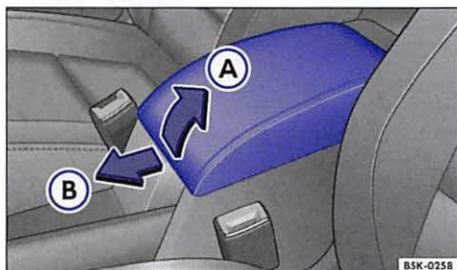

Fig. 42 Front center armrest.
To *open* the center armrest, pull the armrest and latch upward in the direction of the arrow ⇒ fig. 42 (A).